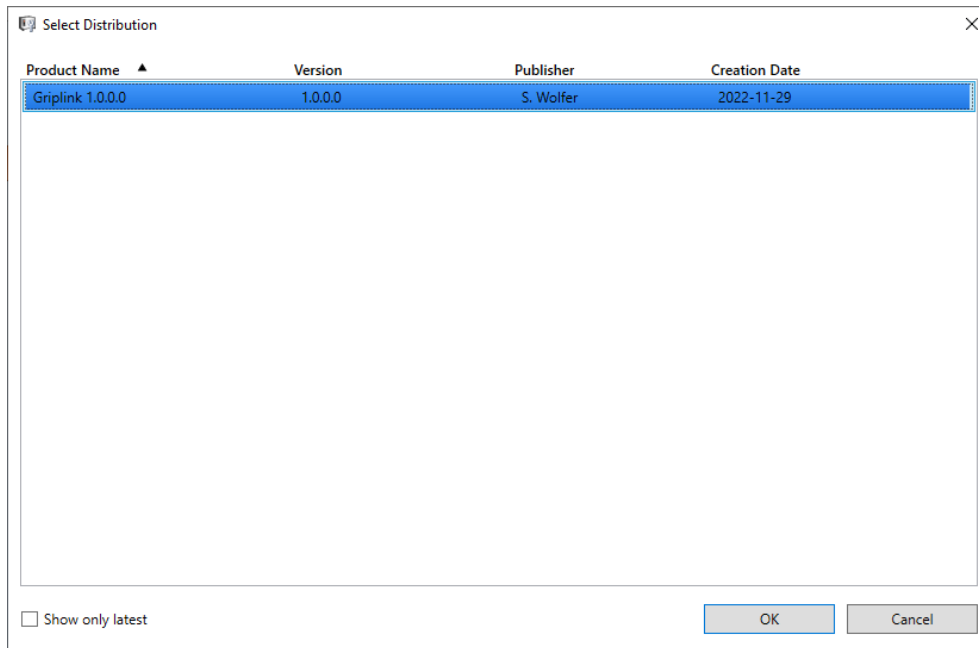

Figure 5
6. Choose "Griplink" and click "OK" (Figure 5)